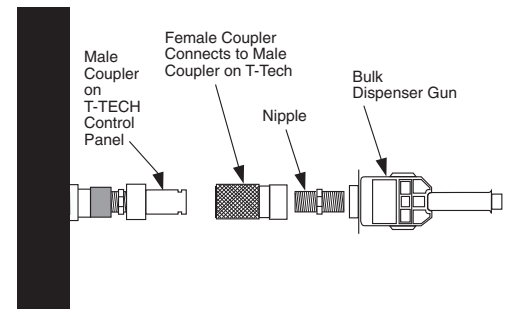

Figure 38. Bulk Dispenser Gun Connection
To use this method, a bulk dispenser gun (see Figure 38) accessory kit must be used. The accessory kit is an optional kit not supplied with the **T-TECH**. The bulk dispenser gun accessory kit must be ordered separately (Part No. FIT200, see Replacement Parts List).
5. Using the proper fittings that correspond to your dispenser gun, connect the bulk dispenser gun to the CYLINDER FILLING port on the control panel on the side of the **T-TECH** (see Figure 38) .